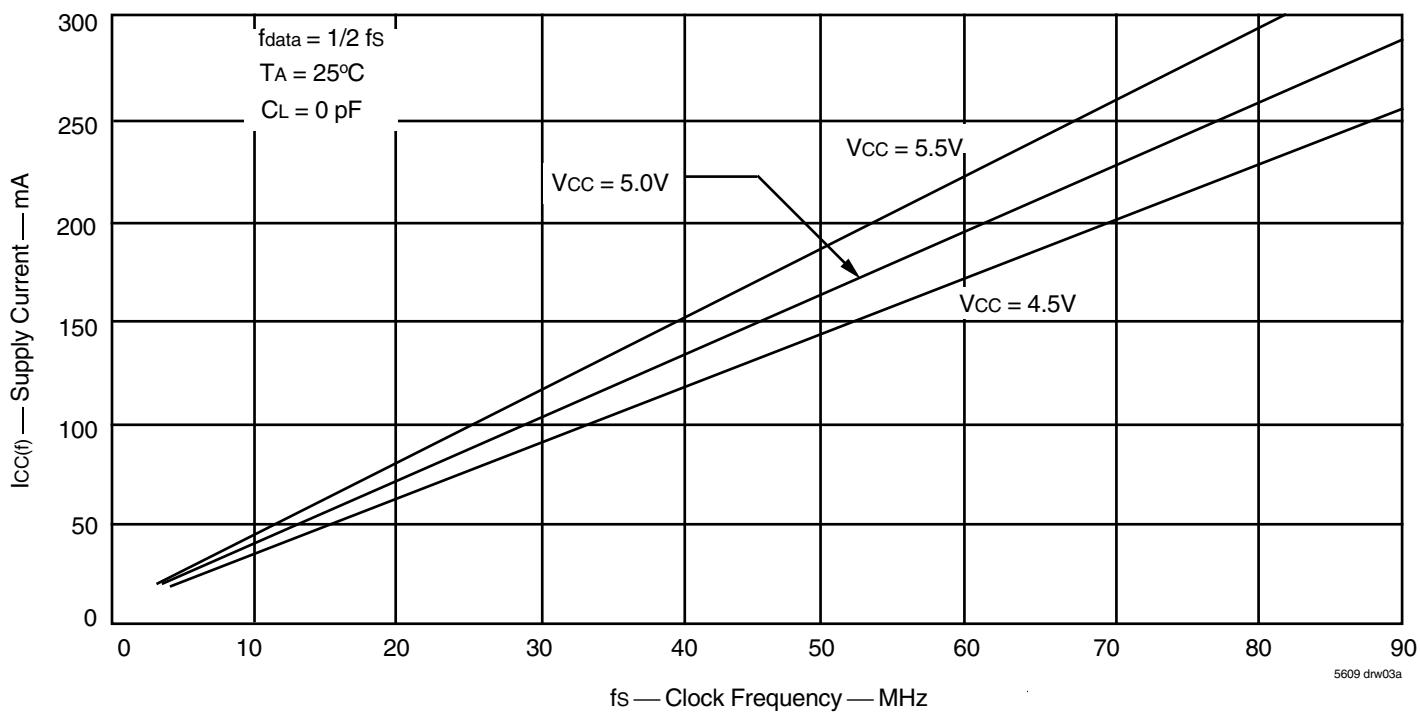

Figure 1. Typical Characteristics: Supply Current (I_{CC}) vs. Clock Frequency (fs)
2. For additional I_{CC} information, see Figure 1, *Typical Characteristics: Supply Current (I_{CC}) vs. Clock Frequency (f_S)*.
The $I_{CC(f)}$ current for the graph in Figure 1 was taken while simultaneously reading and writing a FIFO on the IDT723652/723662/723672 with CLKA and CLKB set to fs . All data inputs and data outputs change state during each clock cycle to consume the highest supply current. Data outputs were disconnected to normalize the graph to a zero capacitance load. Once the capacitance load per data-output channel and the number of these device's inputs driven by TTL HIGH levels are known, the power dissipation can be calculated with the equation below.
With $I_{CC(f)}$ taken from Figure 1, the maximum power dissipation (P_T) of these FIFOs may be calculated by: